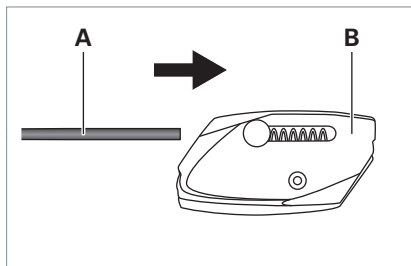

Fig. 2: Fastening the wire rope holder to the wire rope.
- ▶ Guide the wire rope **A** through the first eyelet of the wire rope holder **B**, see Fig. 2.